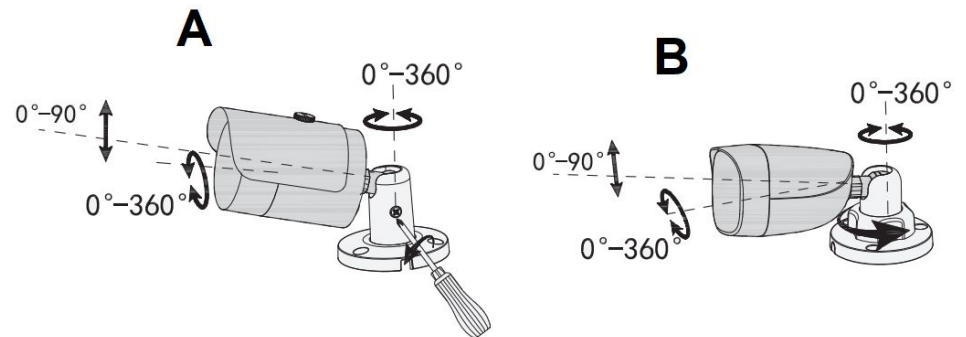

Figure 2-4
Step 5 Loosen the set screw or the locking collar on the base. This will allow movement of the camera body from the base. Re-tighten when finished. See Figure 2-4 for examples.